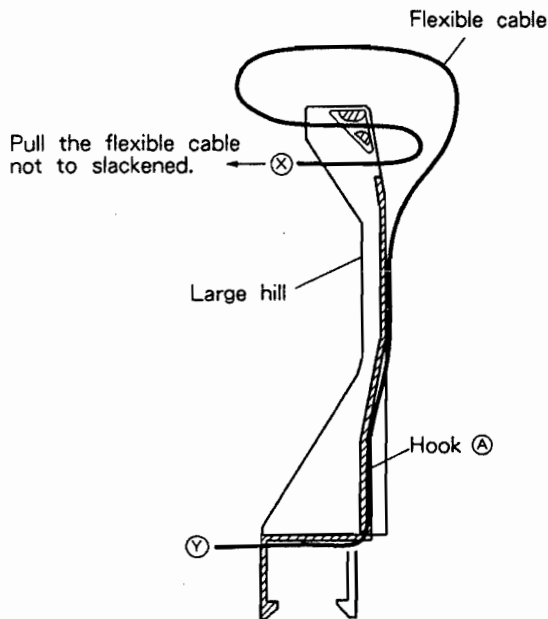

Fig. 17 Sectional plan
① Bend the flexible cable as shown below.
② Put the bended portion to hook (A) of the large hill.
③ Bend the flexible cable along the wall of large hill.
④ Pull the flexible cable not to slackened after passing the X edge side of flexible cable through the large hill as shown in Fig. 17.